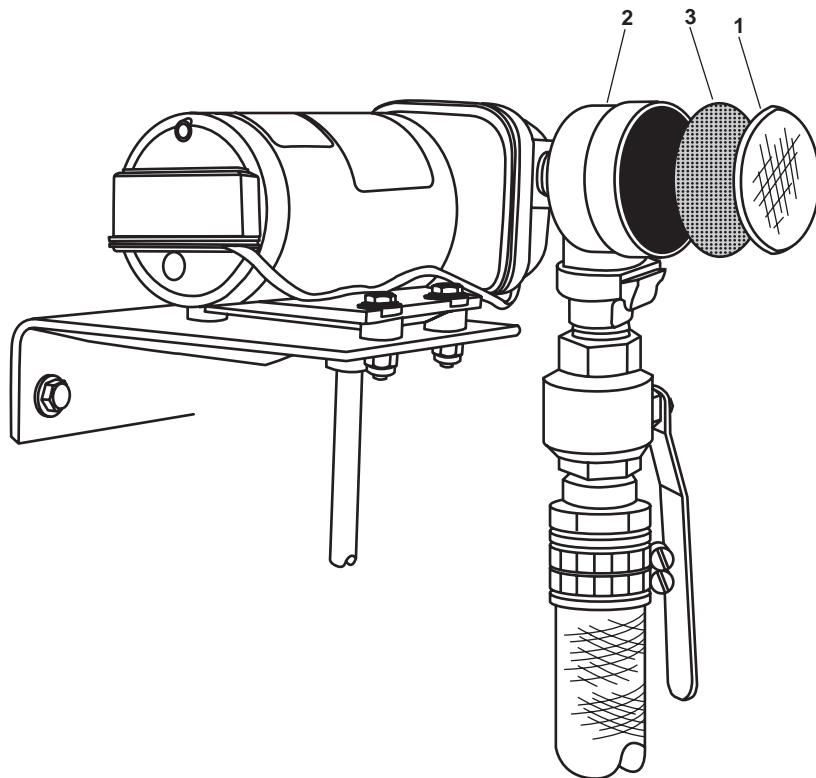

Figure 4. Fresh Water Flush Pump Inlet Strainer
3. Unscrew the strainer cover (figure 4, item 1), and remove it from the strainer assembly (figure 4, item 2).
4. Carefully remove the mesh screen (figure 4, item 3) from the strainer assembly (figure 4, item 2).
5. Clean the mesh screen (figure 4, item 3) with fresh water and rags. Remove all debris and foreign matter from the mesh screen.
1. Install the mesh screen (figure 4, item 3) in the strainer assembly (figure 4, item 2).
2. Install the strainer cover (figure 4, item 1).